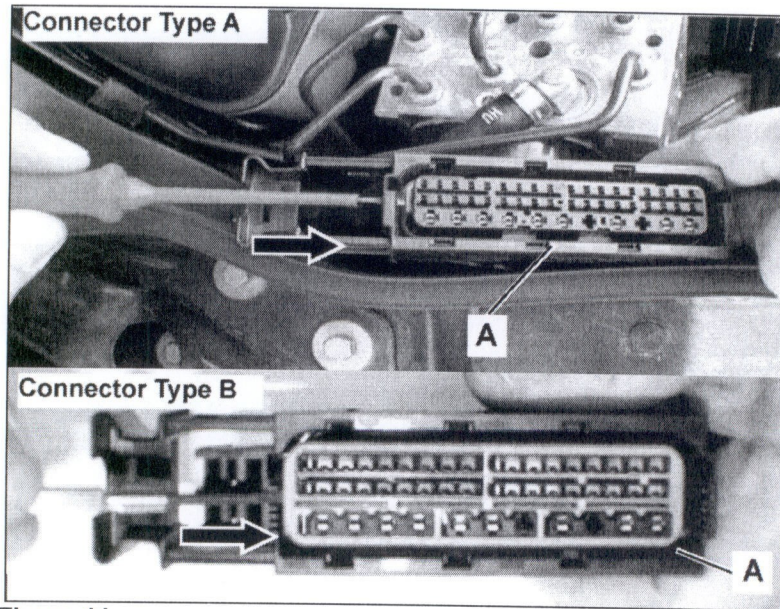

Figure 11
17. Close the (gray) secondary lock of the SBC connector housing (A, Figure 11) by sliding the lock in the direction indicated by the arrows (Figure 11) using a small screwdriver until it locks into place.